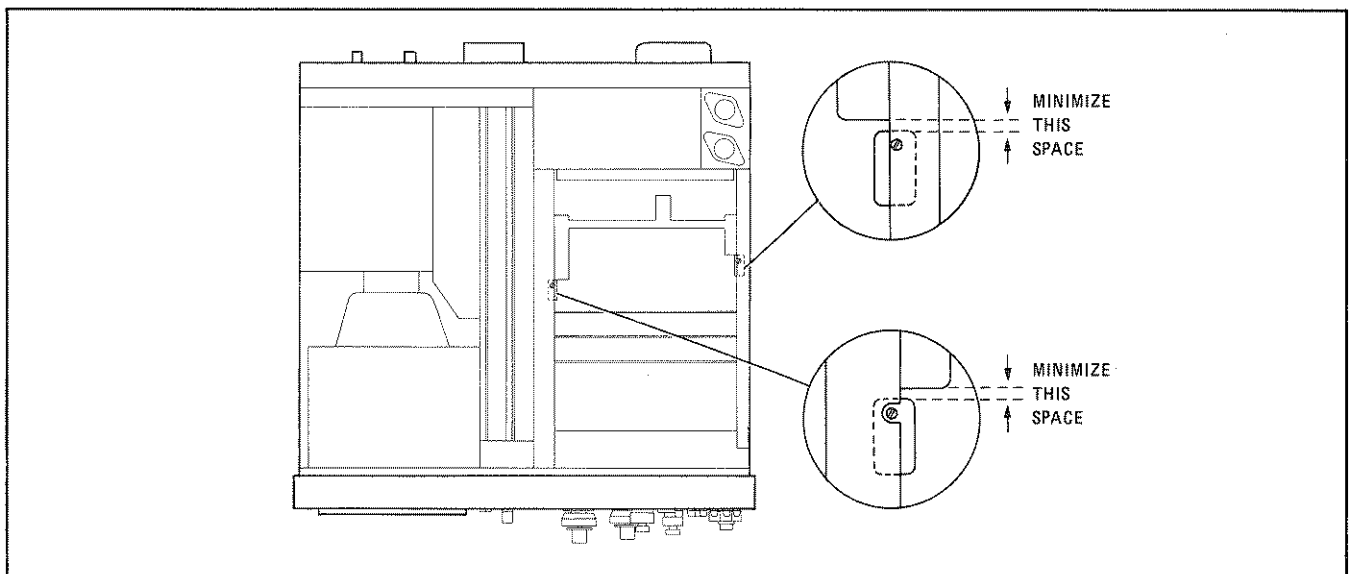

Figure 2-6. Side Stop Positioning
2. Slide the spectrum analyzer plug-in (HP 8559A, 8558B, or 8557A) into the HP 853A and lock it into place. Install a side stop in both black plastic upper guides of the HP 853A, using the screws provided in the kit. Orient each side stop for the least amount of gap between the side stop and the plug-in guide rail (see Figure 2-6). Note that there are three possible ways to orient each side stop.